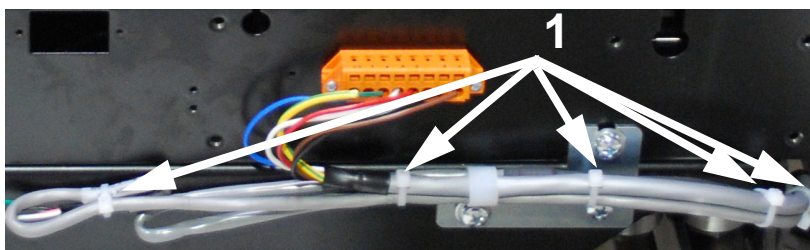

Figure 2-9. PBL Cable
- 19** Cut tie wraps (1 in Figure 2-9) off the cable.